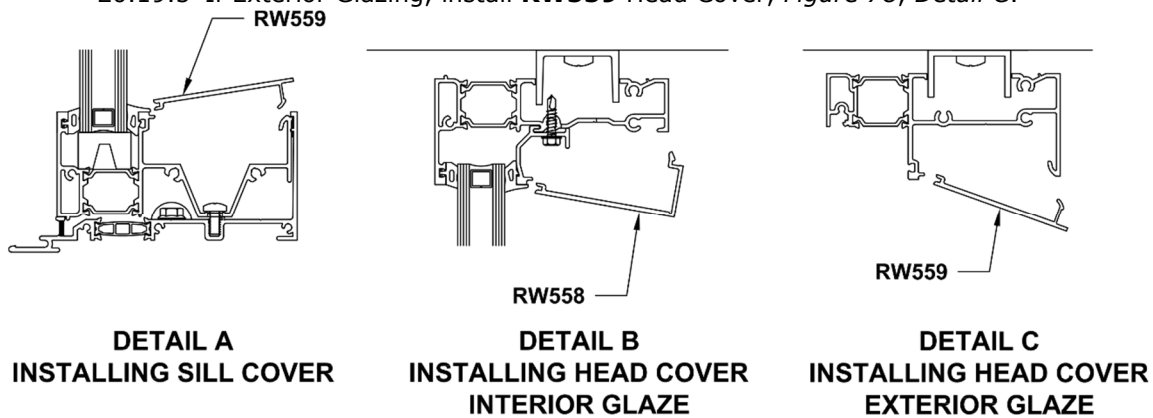

Figure 78: Cover Installation
- 19.20.4 If Interior Glazing, install **RW558** Head Cover, *Figure 78, Detail B*.
- 19.20.5 If Exterior Glazing, install **RW559** Head Cover, *Figure 78, Detail C*.
20.19.1 It is OPTIONAL to install the Sill Cover before glazing. To install the Sill Cover, snap **RW559** Sill Cover into place at Sill, *Figure 78, Detail A*.
20.19.3 Snap **RW559** Sill Cover into place at Sill, *Figure 78, Detail A*.
20.19.4 If Interior Glazing, install **RW558** Head Cover, *Figure 78, Detail B*.
20.19.5 If Exterior Glazing, install **RW559** Head Cover, *Figure 78, Detail C*.